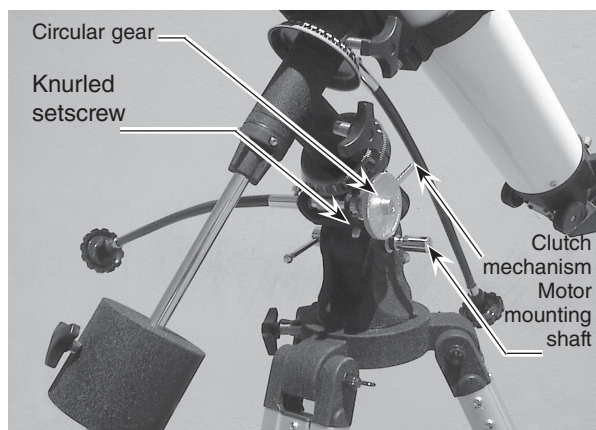

Figure 4. Orion EQ-2 mount comes with many parts of the EQ-2M Motor Drive System preinstalled.
1. Many of the parts used for the EQ-2M Motor Drive System are preinstalled on your EQ-2 mount. The circular gear on the right end of the R.A. worm gear shaft, the odd-shaped clutch mechanism, the motor mounting shaft, and the knurled setscrew just underneath the R.A. worm gear are all part of the motor drive system (see Figure 4).